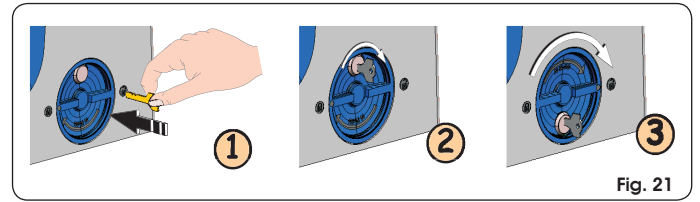

Fig. 21
1. Fit the supplied key in the lock, Fig. 21 Ref. ①, and turn it clockwise as shown in Fig. 21 Ref. ②.
2. Turn the release system clockwise by about 180°, as shown in Fig. 21 Ref. ③.